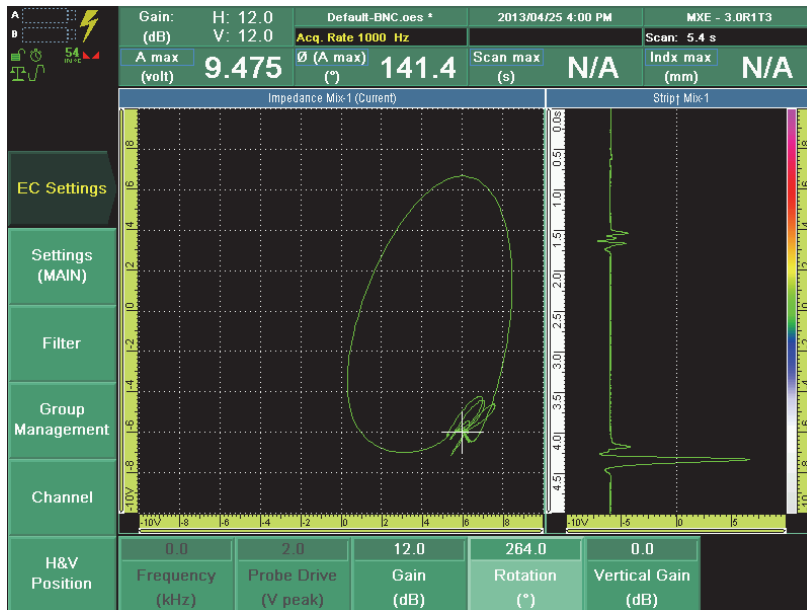

Figure 9-44 Fine-tuning the defect's signal to expand and rotate
1. Select **EC Settings > Settings (MAIN) > Gain (dB)**, set the value to expand the signal, ensuring that it spans approximately 6 grid divisions in the impedance plane view, and then press the Accept key to confirm. Typically, the **Gain (dB)** parameter value can be increased by 10 to 20 dB (see Figure 9-44 on page 178).